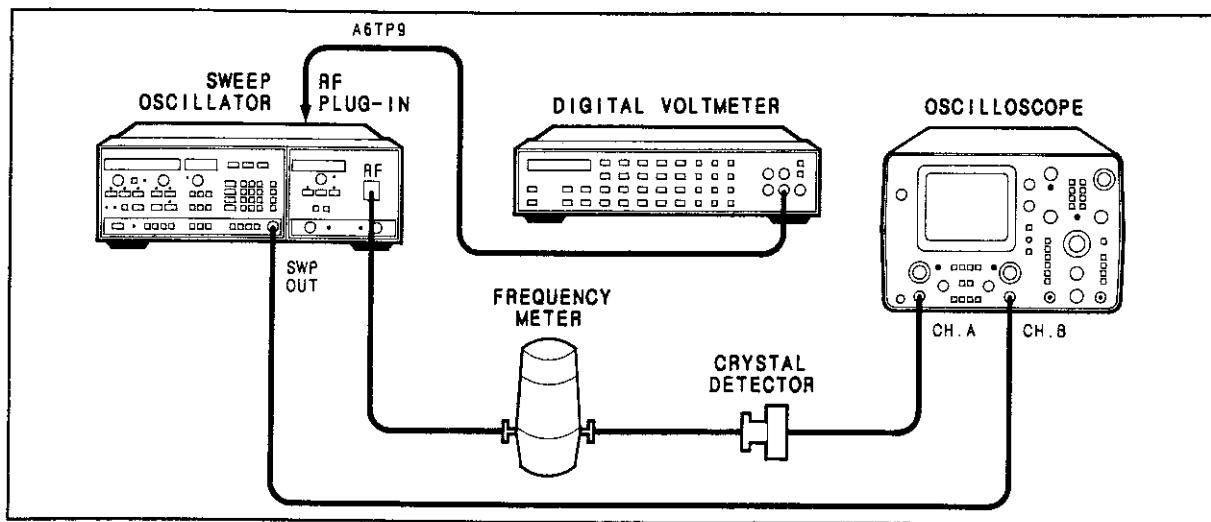

Figure 5-8. Delay Compensation Adjustment Setup
5. Connect equipment as shown in Figure 5-8. Select oscilloscope A vs B mode to obtain a CRT trace of amplitude versus frequency.